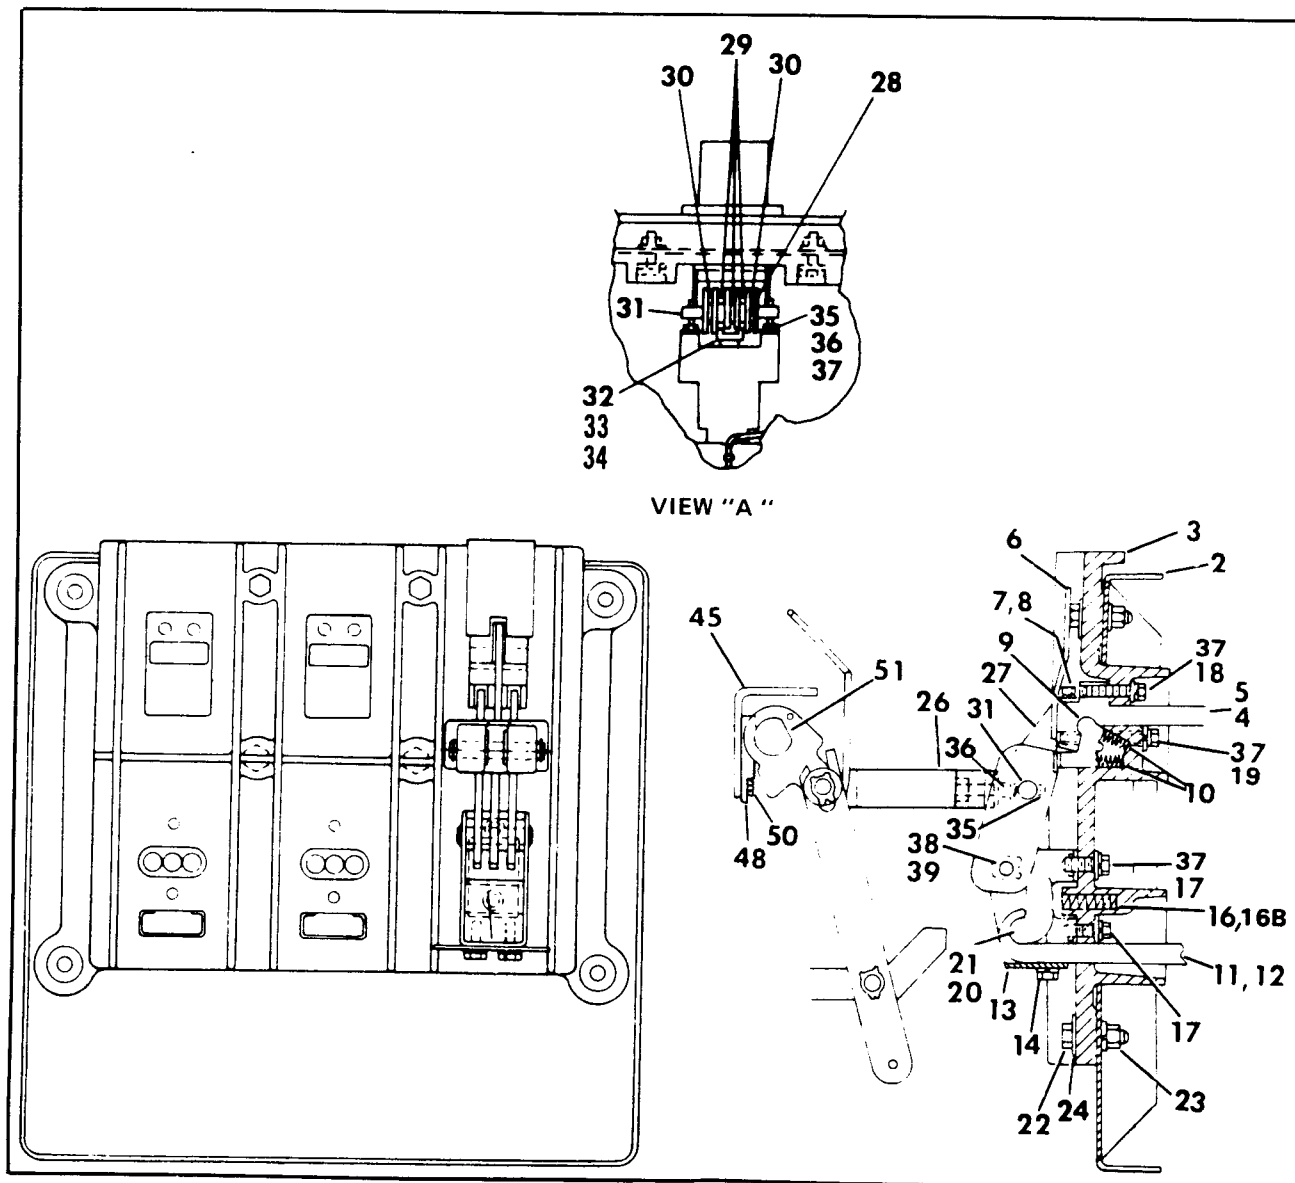

Figure 8. Contact Assembly
Compression of contact fingers (9) must be between .093" and .125" (2.4-3.2 mm). This is the difference in the measurement from the breaker base to the tip of the finger contact surface when the breaker is open. Measure in the same place when the breaker is closed. This is checked with a **normal** closing operation—not maintenance closing. Adjustment is provided by positioning screws (35) after loosening nuts (36). Counterclockwise rotation of screws (35) increases compression. Care should be taken to retighten nuts (36) after adjustment. If it is desired to check contact pressure, a push-type spring scale can be used to compress contact fingers (9) with breaker open. Contact pressure should be between 20 and 30 pounds (9.1-13.6 kg) on each finger. (See Figure 8.)
when checked with a pull-type spring scale at the base of the arcing contact tip insert with the circuit breaker contacts closed. Measure each blade separately. (See Figure 8.)
The stationary arcing contact is a part of connector (4) and may be replaced by proceeding as above. In this case, screws (18) must be removed. However, to provide clearance for removal of connector (4), first insert a 3/16" (4.7 mm) diameter rod at least 2" (50 mm) long through the opening in support (13). It may be necessary to compress contact (21) opposite arcing contact (27), in order to insert the rod. This will hold hinge contact fingers (21) in position to permit removal of pin (38). After removal of pin (38), main contact (28), and arcing contact (27) can be positioned so that connector (5) can be removed. (See Figure 8.)
Remove top screw (17) from support (13), and replace it with a 1/4-20 screw at least 1-1/2" long. Remove lower screws and then gradually back off the 1-1/2" screw to relieve the loading from springs (16). The hinge contact fingers can now be removed. To provide easier access to the hinge contact fingers, pin (38) may be removed after the loading is relieved from springs (16). (See Figure 8.)
Remove two screws on each side of lower connector. The complete movable contact assembly may now be brought to the bench. The location of spacers should be noted, if necessary. (See Figure 8.)